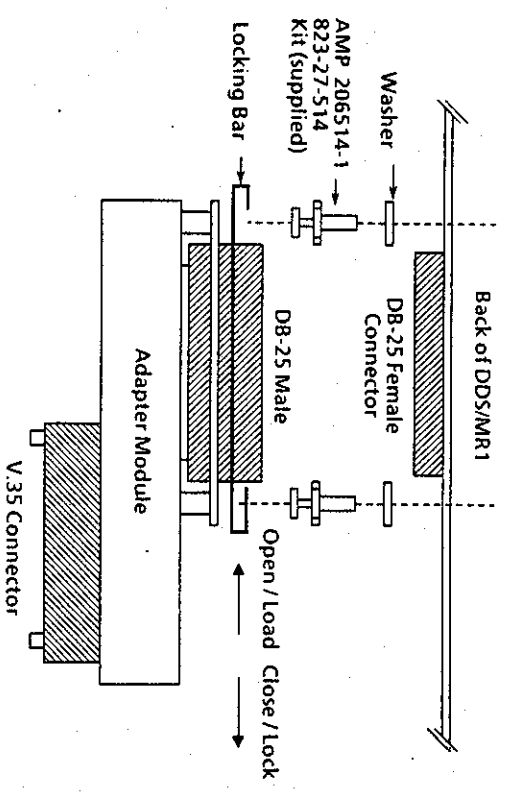

Figure 2-3
- Using the same 3/16 inch nut driver, insert the screws and washers as shown in Figure 2-3.